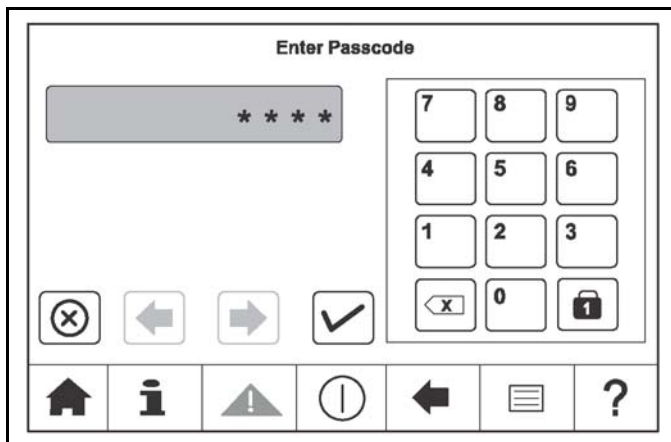

Figure-27
12. Enter the Manager's Menu passcode: 1955. See Figure-27. (See page 36 for more details.)